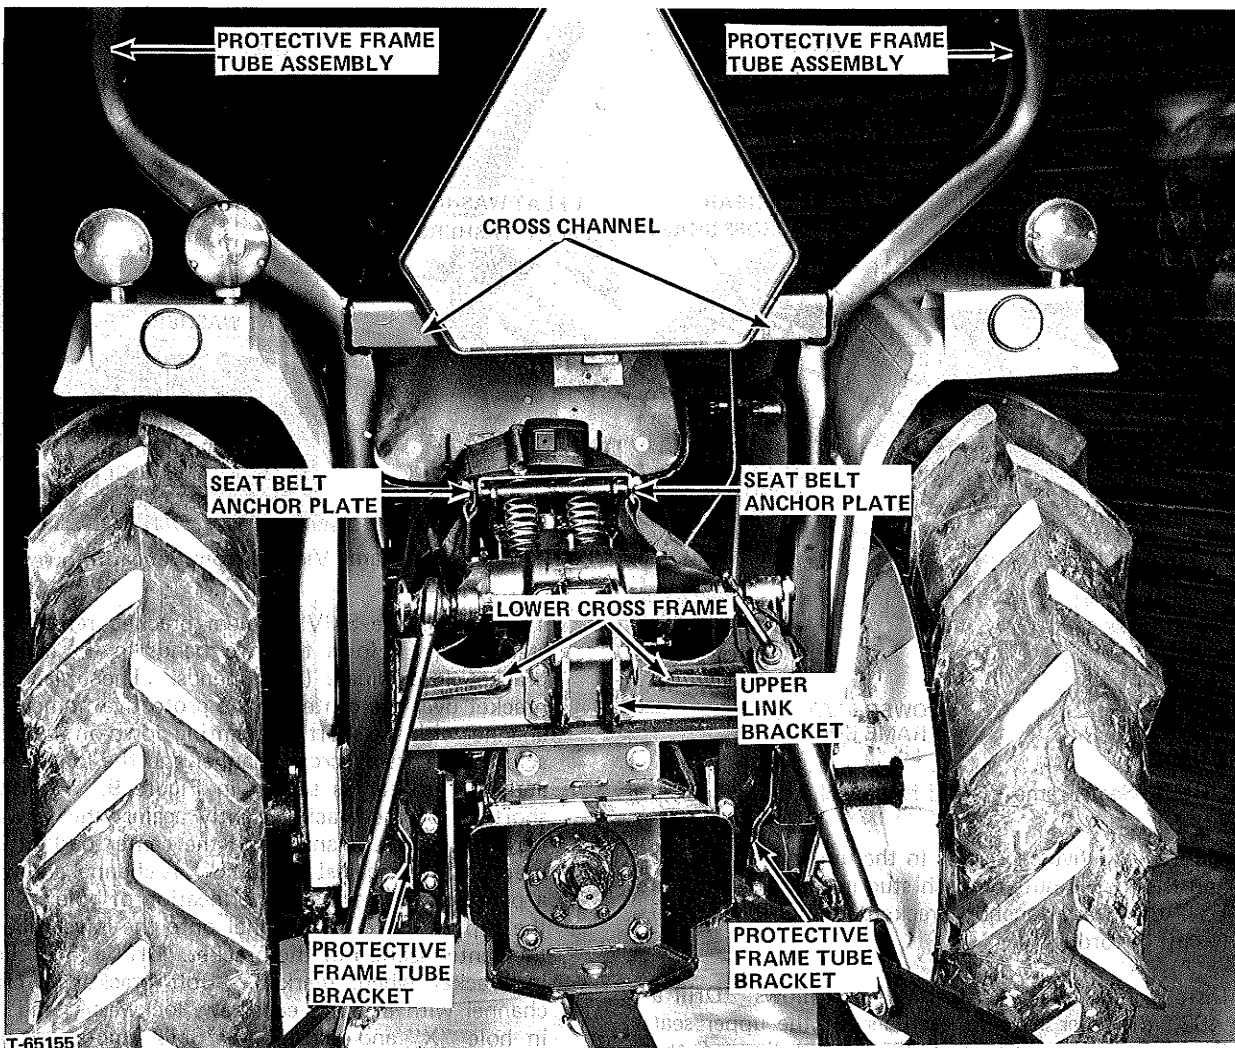

FIGURE 4
3. Position the protective frame assembly vertically upright at the rear of the tractor as shown in Figure 4.